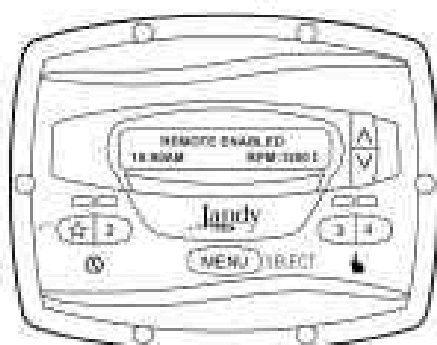

Figure 5. Connect to Remote Contacts
2. Connect one side of the remote contact closure to the COMMON terminal on J3 REMOTE CONTROL connector of the controller. See "Figure 5. Connect to Remote Contacts"